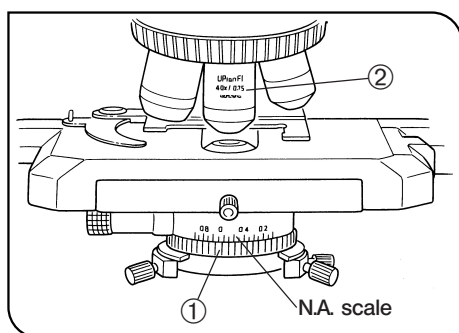

Fig. 32
You can use the condenser numerical aperture scale by adjusting the aperture iris diaphragm ring ①. (Fig. 32)